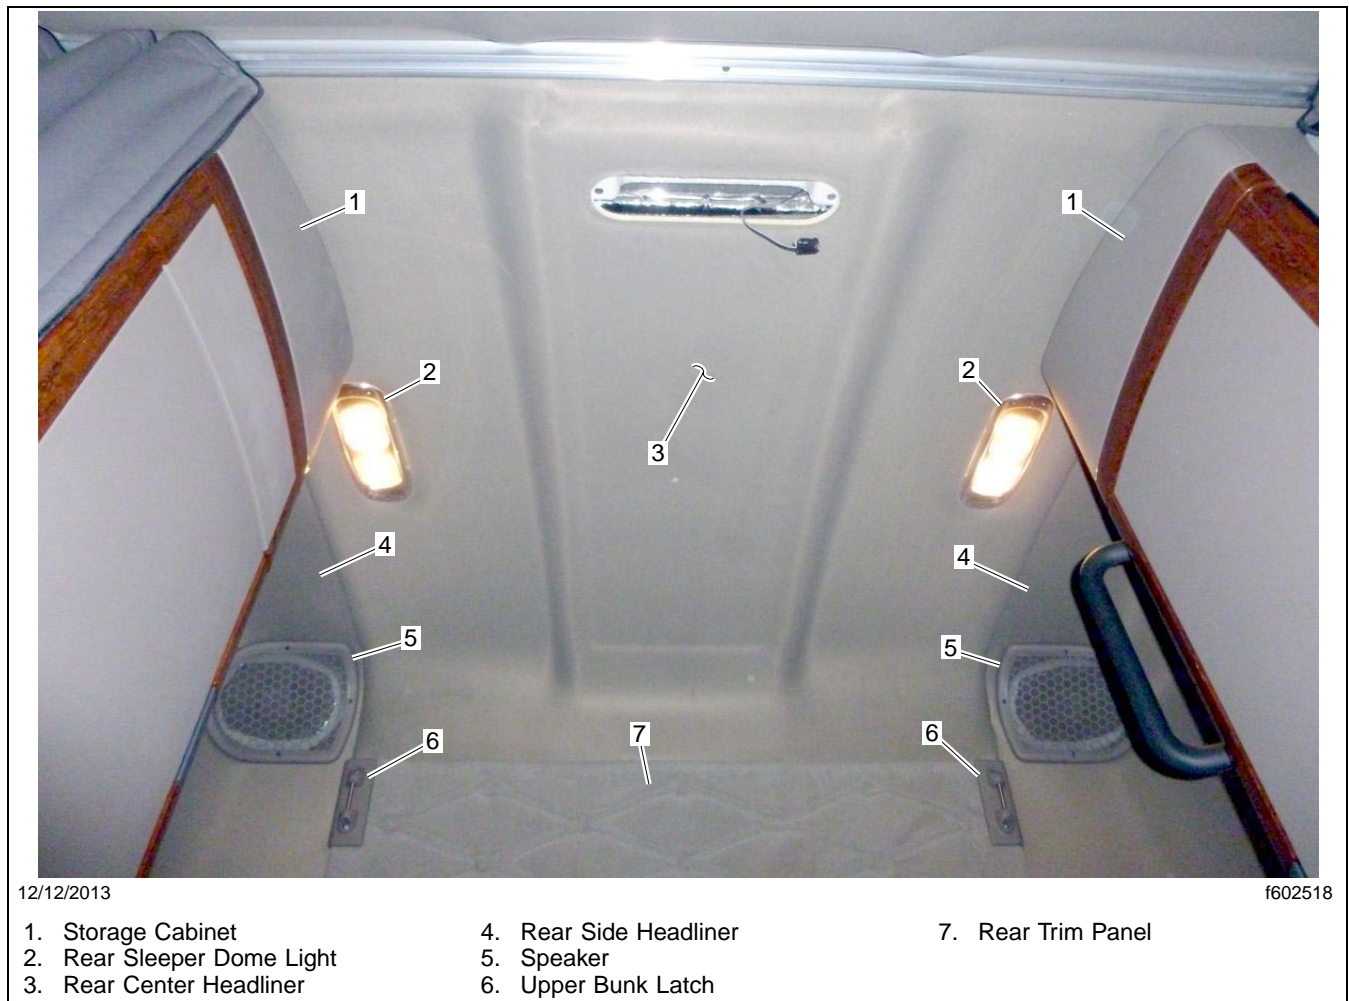

Fig. 5, Sleeper Roof (raised roof model shown)
8. Remove the rear sleeper dome lights, if so equipped (see **Fig. 5**), as follows:
- 9.1 Remove the upper bunk latches (**Fig. 5**, item 6).